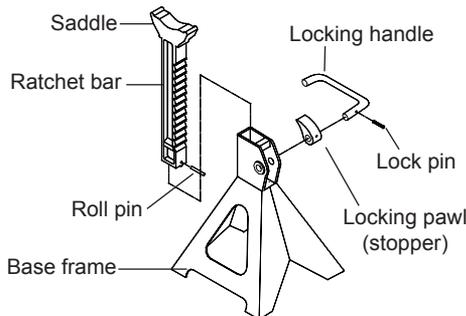

Fig. 1 Model 50163 Components
- Insert roll pin into the bottom hole of the ratchet bar to prevent inadvertent loss of the ratchet bar. (refer to Fig. 1)